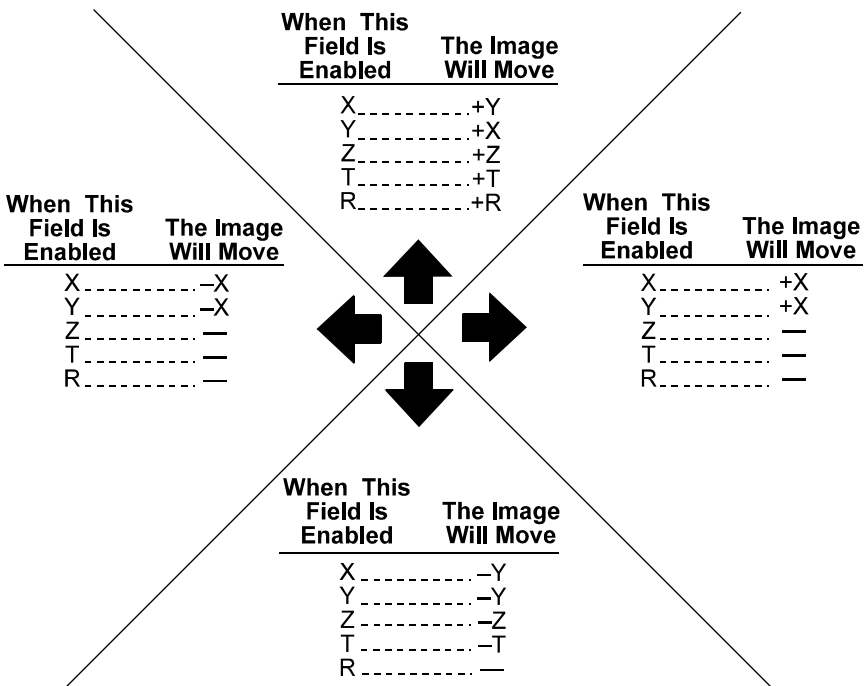

Figure A-2. Image Movements with Keyboard Arrow Keys (or the arrow keys on the numeric keypad when the Num Lock key is off).
- Using the **arrow keys** on the keyboard (or on the numeric keypad when the Num Lock key is off). When the operator clicks in any of the axis text fields, some subset of the arrow keys (illustrated in Figure A-2) becomes enabled for stage movement.
The arrow keys on the keyboard (or on the numeric keypad when the Num Lock key is off) may be used to move the stage. When the operator clicks in any of the five axis text fields, some subset of the arrow keys (shown in Figure A-2) becomes enabled for stage movement.